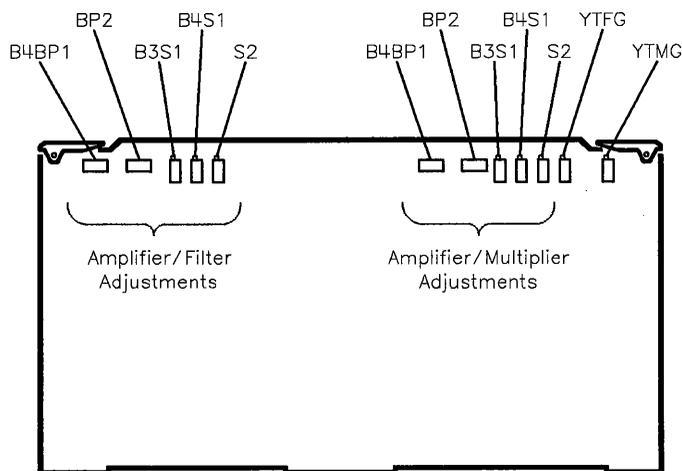

Figure 3-20. A12 Assembly Potentiometer Locations
33. Set A12R108 B3S1 fully clockwise (see Figure 3-20).
36. Adjust A12R108 B3S1 (see Figure 3-20) for maximum power over the rest of the sweep (3 to 10 divisions).